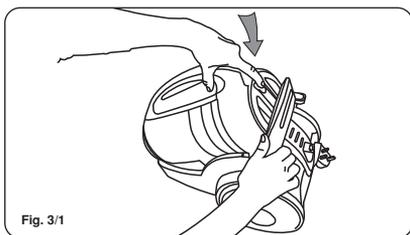

Fig. 3/1
1. Release the dust container by pressing down the release button as shown (Fig. 3/1).